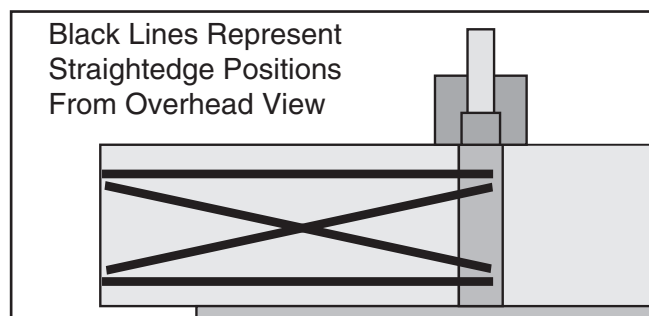

Figure 58. Straightedge positions for verifying if outfeed table is parallel with cutterhead.
7. Place straightedge in each position shown in **Figure 58**, and adjust eccentric bushings under outfeed table so straightedge touches cutterhead body while lying flat across outfeed table.